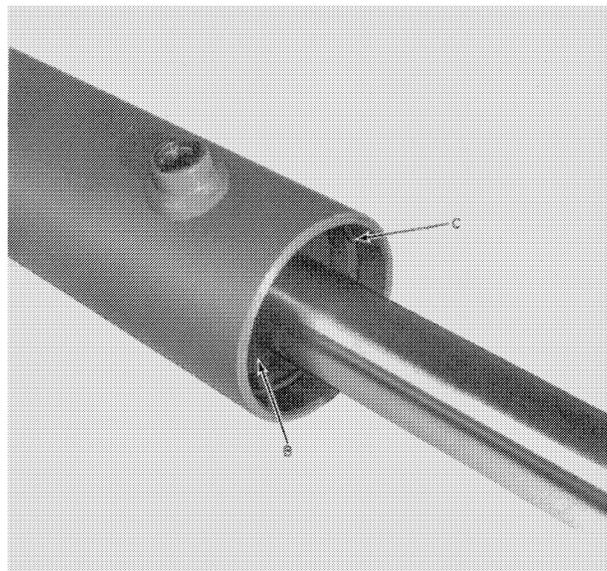

FIGURE 35
2. Tap cylinder head, B, Figure 35, into cylinder far enough to remove retaining ring, C, with a screwdriver.
3. Insert complete piston rod assembly into barrel and install retaining ring, C, Figure 35.